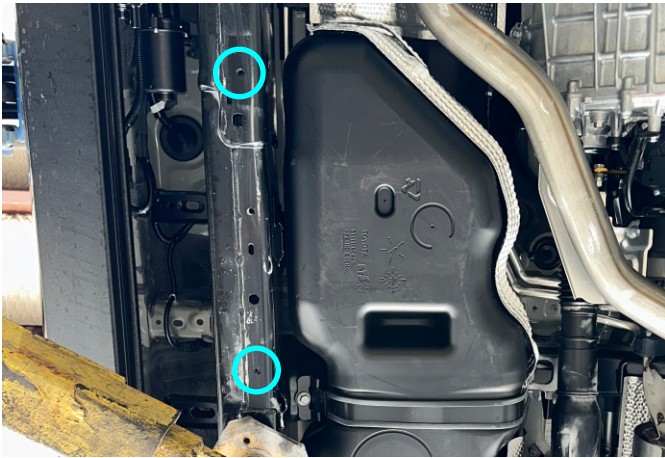

Fig. 6
3. Loosely insert supplied bolts M8x25 with washers M8 (items A, B) into threaded holes as shown in fig. 6.